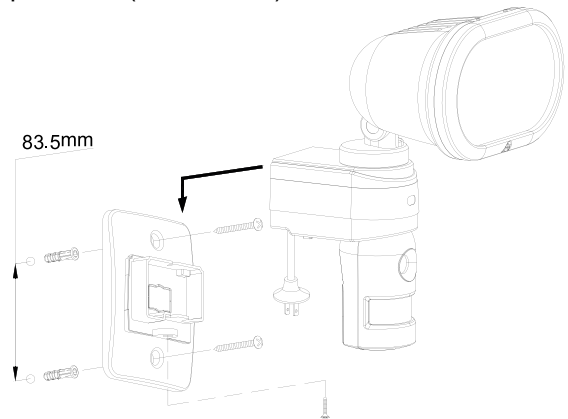

FIGURE 40
- (3) Using the mounting bracket as a template, mark the positions of fixing hole on the wall. Drill the hole and insert the plastic wall plug supplied. Secure the mounting bracket using two screws provided. (FIGURE 40)